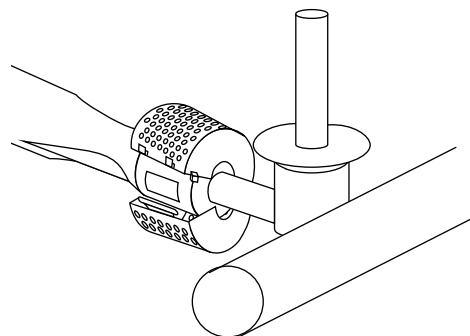

Figure 7
- d) Unlatch the Spider Stopper Guards and remove. Figure 7.